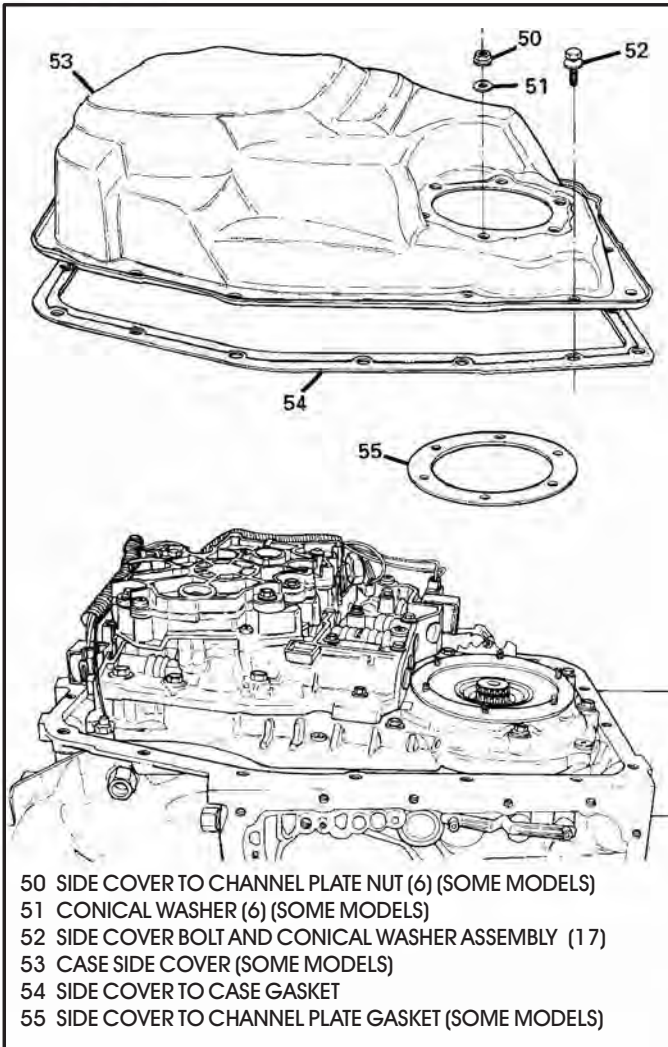
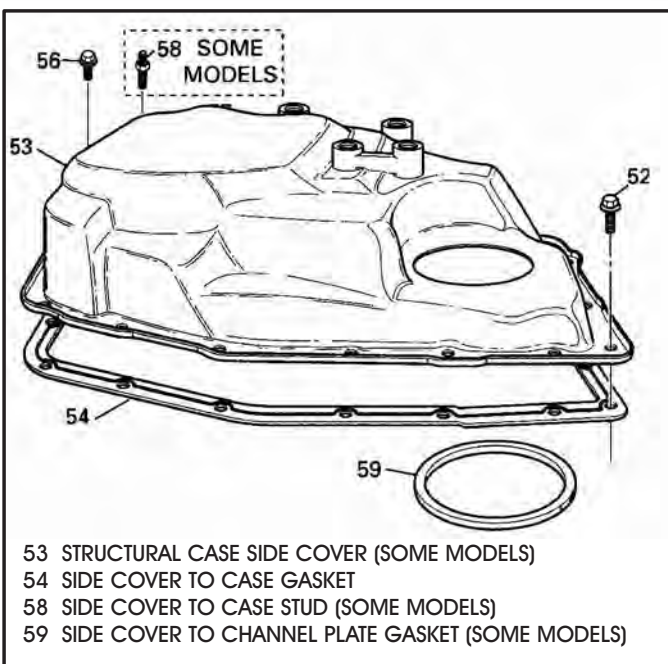

Figure 45
Figure 46
11. Rotate the transaxle so that the side cover is facing up, as shown in Figure 45.
12. Remove the 6 nuts and conical washers from side cover, if equipped (See Figure 45).
13. Remove the 17 side cover to case retaining bolts, as shown in Figure 45.
Special Note: Some models are equipped with a stamped steel side cover with retaining nuts and conical washers, as shown in Figure 45. Other models are equipped with structural (cast aluminum) side covers that do not use the retaining nuts and conical washers, as shown in Figure 46.
14. Remove and discard the side cover to case and side cover to channel plate gaskets, as shown in Figures 45 and 46.